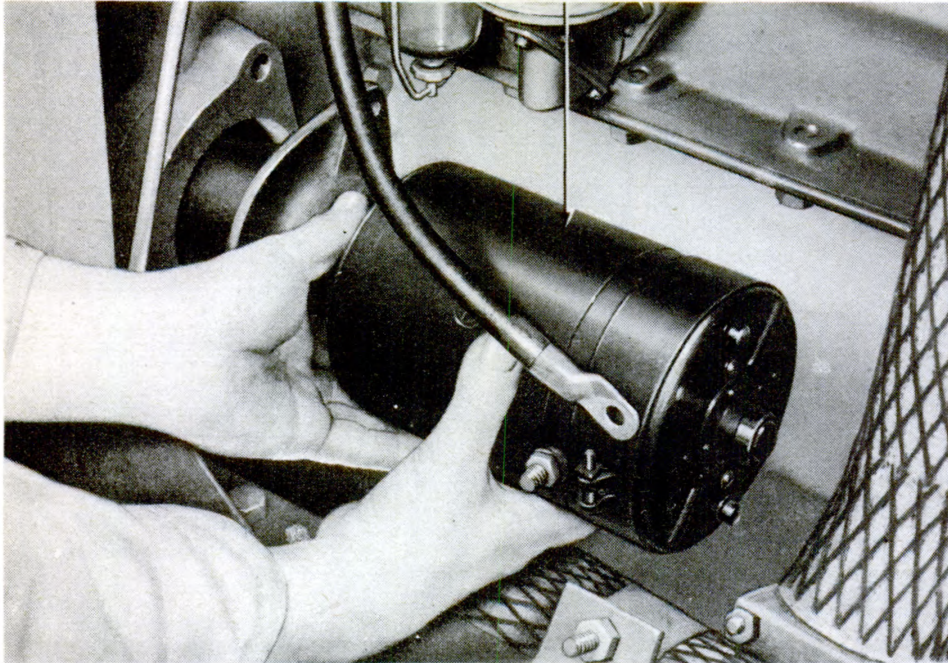

Figure 63 – Starting Motor Removal RA PD 78059
d. Removal (fig. 63). **NOTE:** Procedure the same for either starting motor.
(1) Remove nut attaching starter switch wire lead to post on the frame of the starting motor.
(2) Take out three cap screws and lock washers holding starting motor to engine bell housing and lift off starting motor.
e. Installation (fig. 63).
(1) Place starting motor in position on engine bell housing, securing it with the three cap screws and lock washers.